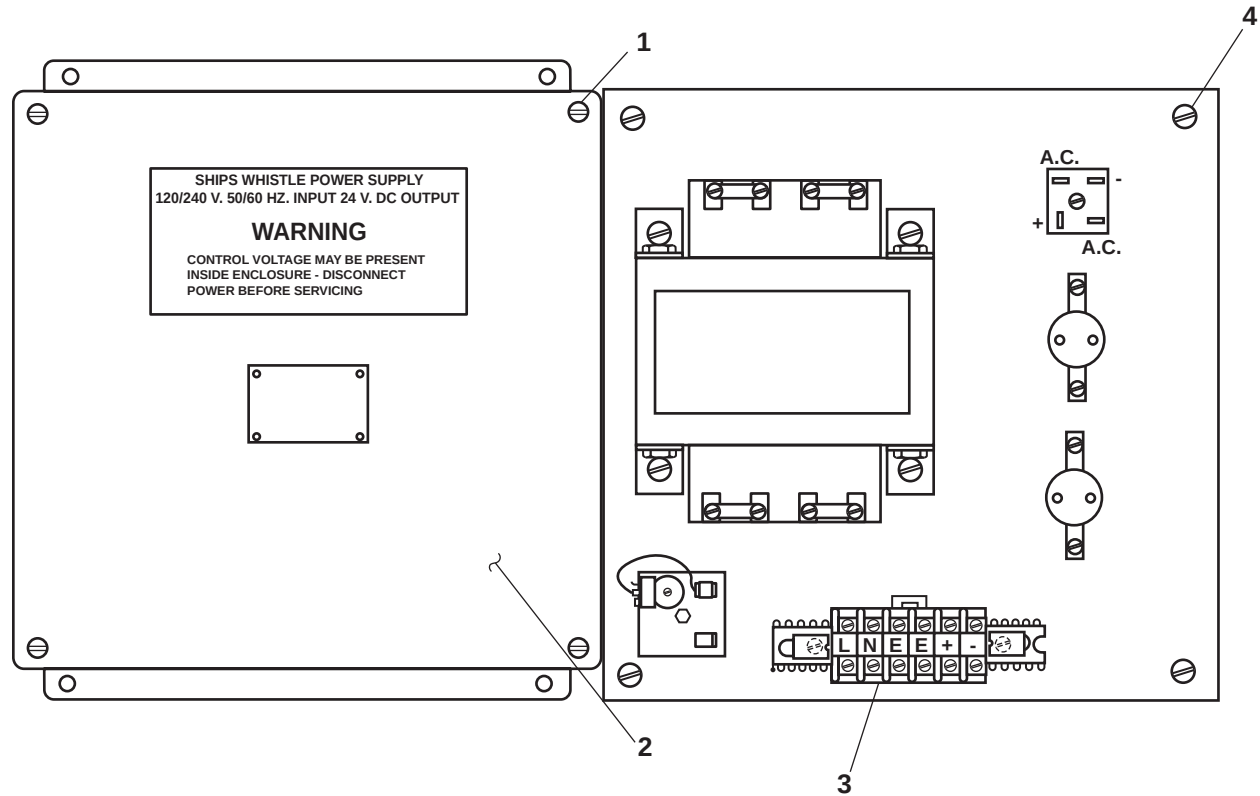

Figure 2. Signal Horn Power Supply
1. Remove the four bolts (figure 2, item 1) that secure the cover (figure 2, item 2) to the power supply. Remove the cover.
2. Use a multimeter to check for the presence of voltage at the terminal board (figure 2, item 3). If voltage is present, verify that the correct circuit breaker is set to OFF, locked out, and tagged out (FM 55-502). If no voltage is present, continue with the procedure.
3. Label and remove the wiring from the terminal board (figure 2, item 3).
4. Remove the four screws (figure 2, item 4) and remove the power supply from the bulkhead.
1. Install the power supply on the bulkhead and secure it with the four screws (figure 2, item 4).
2. Install the wiring at the terminal board (figure 2, item 3) using the labels from step 3 of Removal as a guide. Remove the labels.
3. Install the cover (figure 2, item 2) and secure it with the screws (figure 2, item 1).